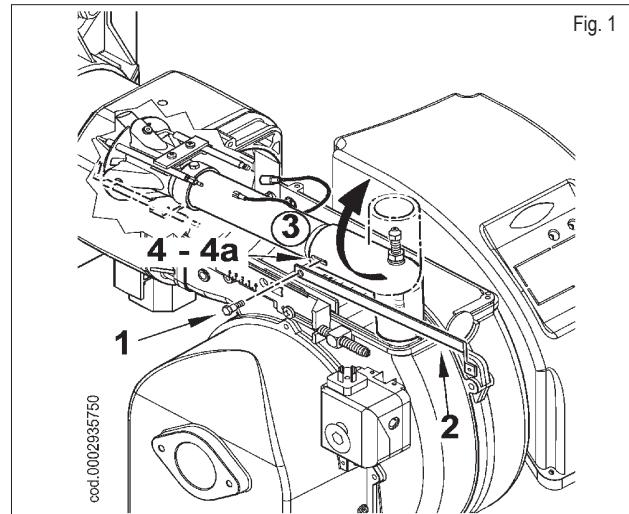

Fig. 1
- Remove the lid by unscrewing the 4 screws (1) in figure 1. In this way the burner's electrical panel can be accessed.
- 1) Slacken the screws 1 and remove the lid 2 (figure 1).
- 1) Following the instructions in the section entitled "Maintenance", remove the mixer unit and remove the screw (1) connecting the forward movement rod (2) of the unit with the gas delivery pipe (3) passing through the slot (4) in the elbow union (figure 1).
- 2) Turn the elbow union 180° so that the hole in the gas delivery pipe is aligned with the slot (4a) in the diametrically opposed position on the union. Connect up the forward movement rod (2) and the gas delivery pipe (3) with the screw (1) shown in figure 1.